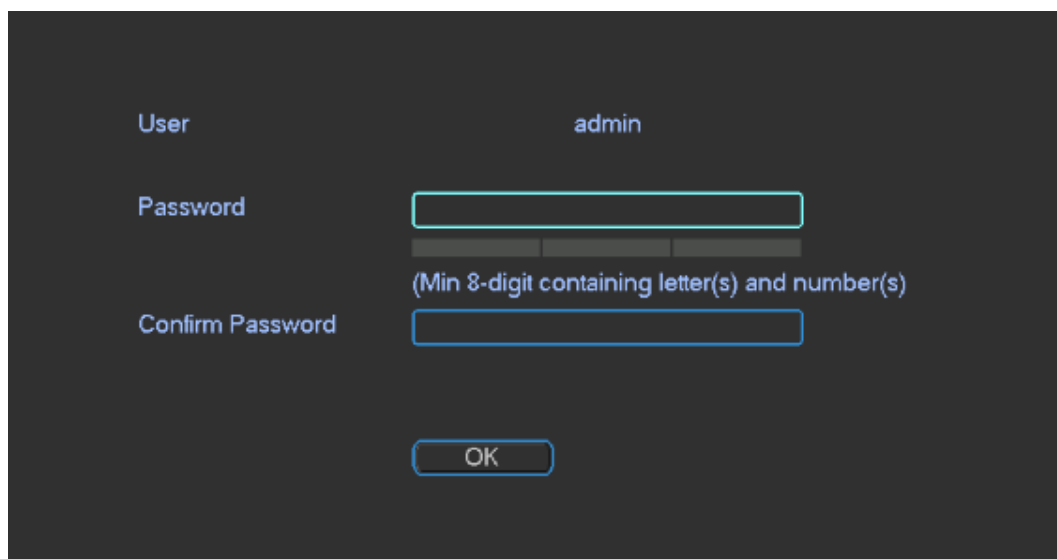

Figure 2-1
Step 1 After you properly turn on the device, the system pops up "Device Initialization" interface, as shown in Figure 2-1.